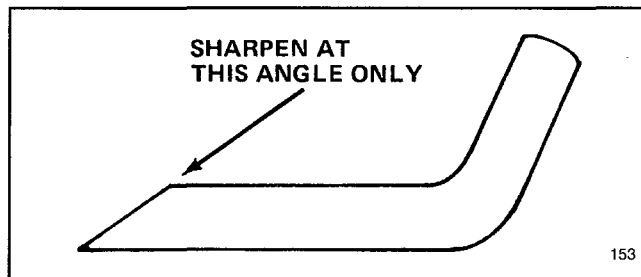

Figure 17
6. SHARPENING BLADE—Using a file, sharpen top side of blade (side facing mower housing) and maintain original cutting angle (Fig. 17). The blade will remain balanced if the same amount of material is removed from both cutting edges.